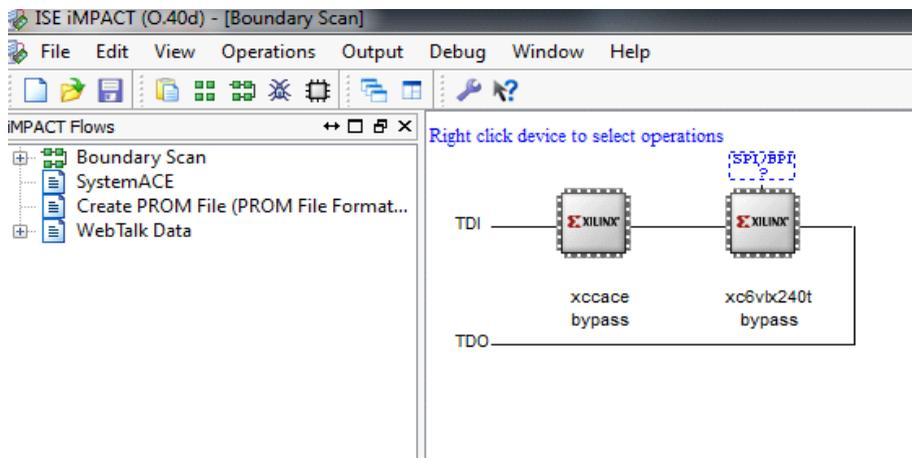

Figure 3–4. Uploading the Bit-Stream Through Boundary Scan
10. As shown in Figure 3–4, the right section of the window shows the boundary scan, which consists of the Xilinx FPGA, xc6vlx240T device. Right click on the FPGA and select “Add SPI/BPI flash” option. When a window opens up, browse to the `prom0.mcs` file for your specific Tensilica processor.